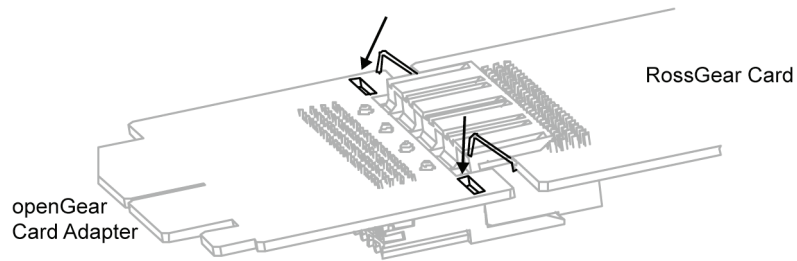

Figure 9. Inserting the openGear Adapter Retaining Clip – Side View
6. Using your thumb and index finger, apply downward pressure to insert the clip arms into the slots of the openGear Card Adapter. Refer to **Figures 9** and **10** for details.